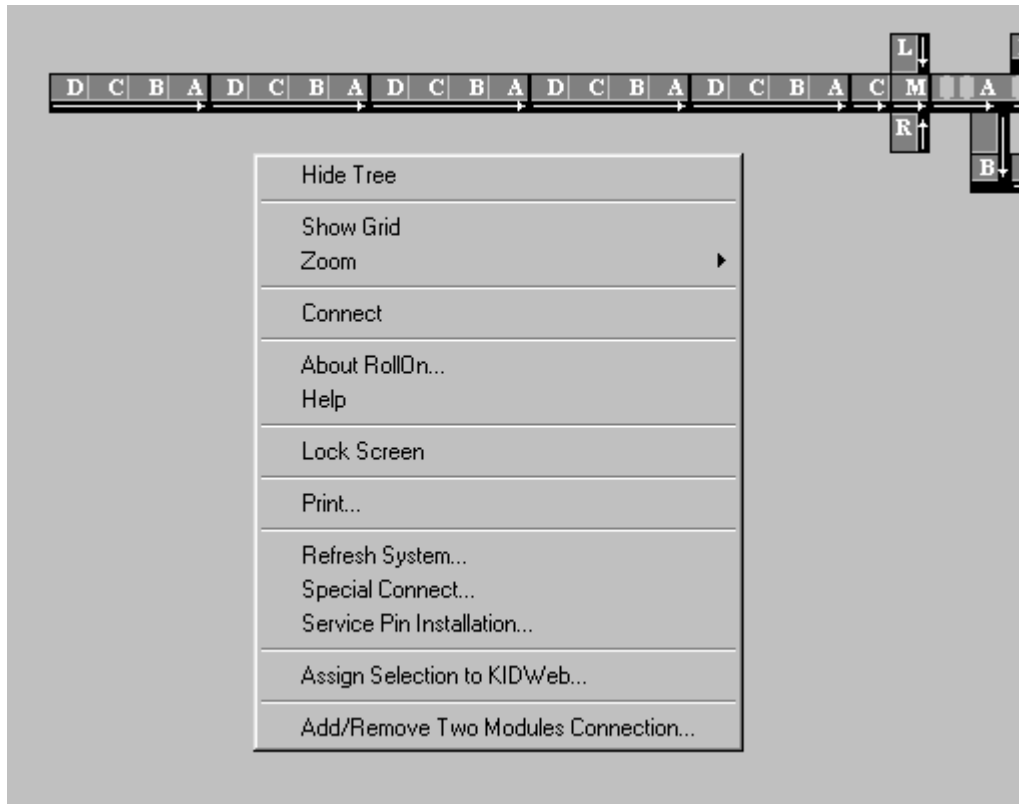

Fig. 4.35
These options are called by right-click on the design field. Some of the options (Fig. 4.35) are used during the design phase of the project, whereas the other options are used during the commissioning phase or for system control, monitoring and maintenance.
To show again the Modules' Tree call again (by right-click) the option drop-down box (Fig. 4.35) and click on the same item, now named **Show Tree**.
- Right-click on the design field to call the options drop-down box (Fig. 4.35).